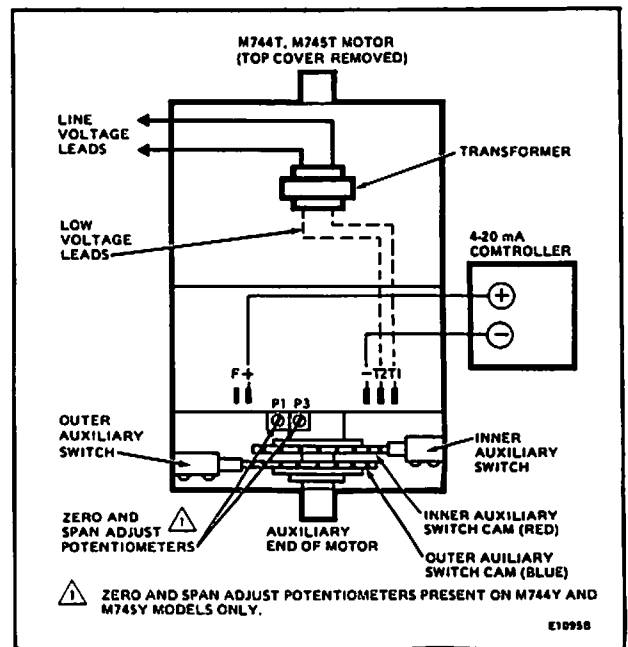

FIG. 8—INTERNAL VIEW OF MOTOR WITH TOP COVER REMOVED.
1. Refer to Fig. 8, adjust the zero potentiometer (P3) fully clockwise (maximum zero) and the span potentiometer (P1) fully counterclockwise (minimum span).
1. Remove the four cover screws on the top of the motor and remove the cover to gain access to motor terminals and the cams (Fig. 8).
2. Disconnect the motor from the controller. Connect a current source to the (+) positive and (-) negative motor terminals (Fig. 8).